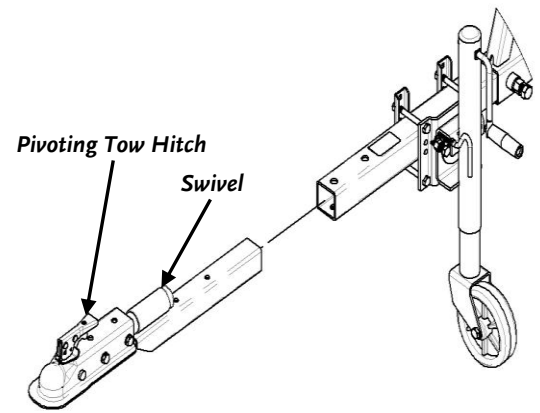

Figure 19
1. Install the Pivoting Tow Hitch (**Figure 19**) into the Tow Beam with the Swivel facing upward.